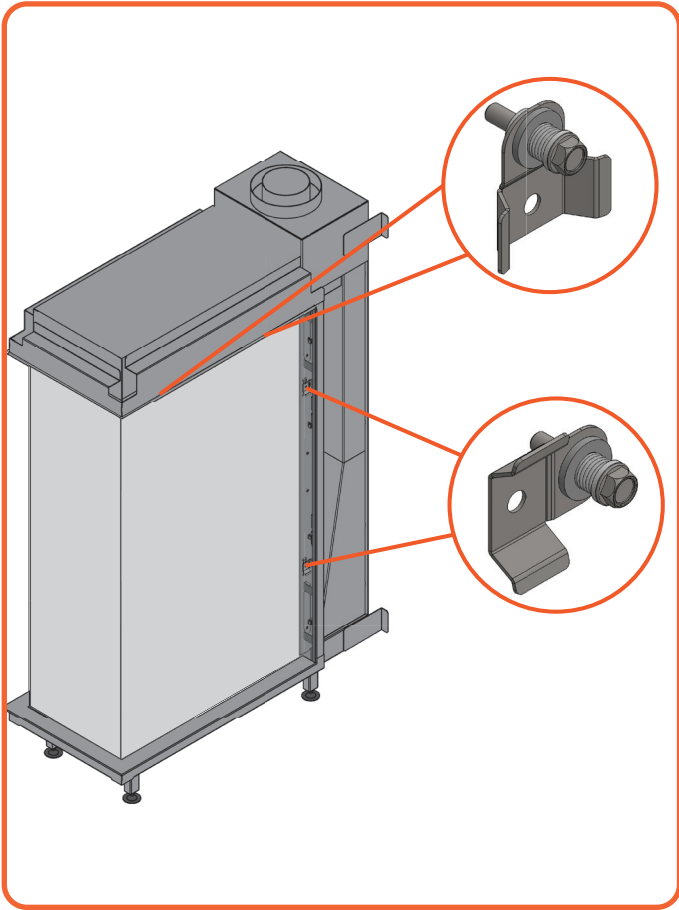

Figure 9.6 | Rotate glass clamps
- Rotate the glass clamps to free the glass, see Figure 9.6. The Sky S has only 1 clamp on the side instead of two.